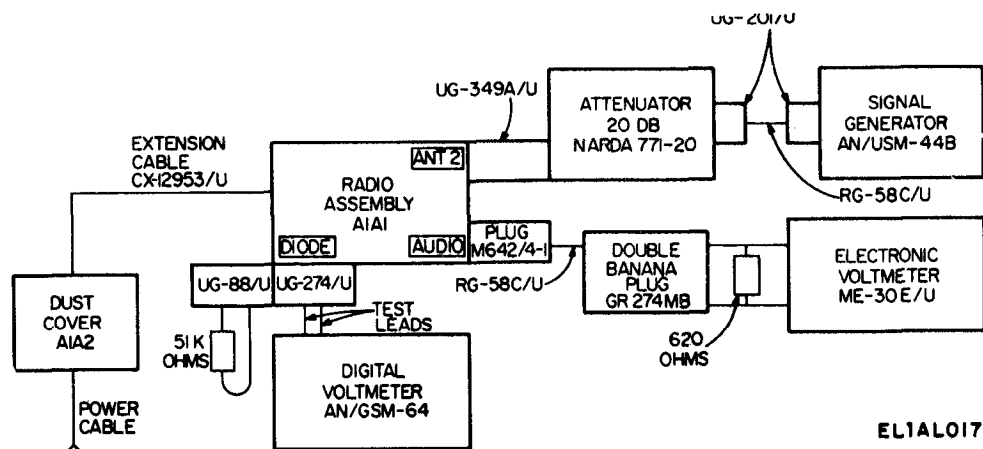

Figure 6-9. IF amplifier gain adjustment connections.
(1) Perform the preliminary test setup of paragraph 6-12.
(2) Connect the test equipment as shown in figure 6-9.